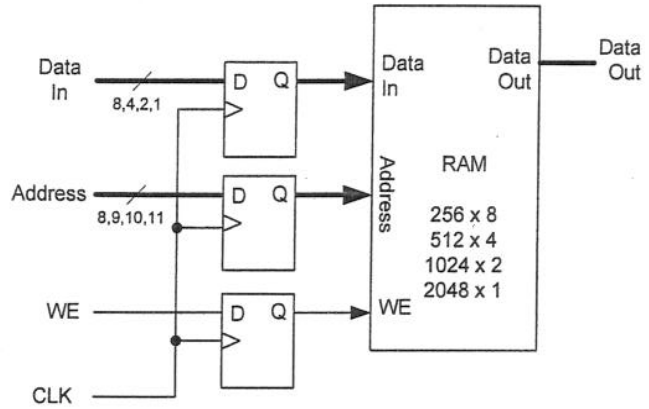

Figure 6.2
- a) *Figure 6.2* depicts a programmable block RAM found in the FPGA. Each block RAM can be configured as 2048×1, 1024×2, 512×4 or 256×8 RAM. The data output can be registered or unregistered depending on how the block RAM is configured as shown in *Figure 6.2*. With the aid of a diagram, explain how you would use multiple block RAMs to implement the memory used in the LIFO.